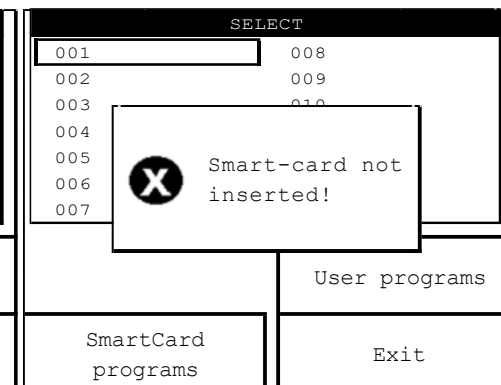

Fig.14
**NOTE:** If you save a program on Smart-Card but the Smart-Card is not inserted, the operator is alerted by an alarm message (see fig.14) to the not inclusion of the Smart Card into place and then the inability to be able to continue in the operation of storage programs.